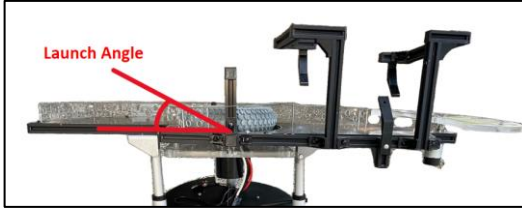

Figure 6
- Launch Angle: specifies the platform angle from side to side or the tilt (see Figure 6).